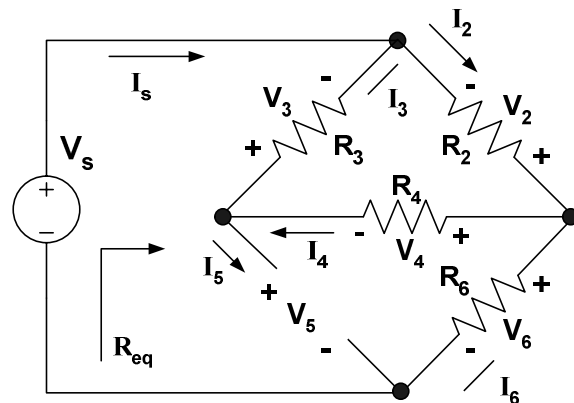

Figure 4: Series-parallel circuit II
4. Repeat steps 2 and 3 for the circuit given in Figure 4 and record the values in Table 2.
6. Build the circuit of Figure 4 with the hardwired components. Take the voltage current measurements and R_{eq} and record in Table 2. Considering the Workbench results as the base compute the percentage errors.
Table 2: Simulation and experimental results for Figure 4
Refer to Figure 4 and the results obtained in Table 2 and answer the following questions: